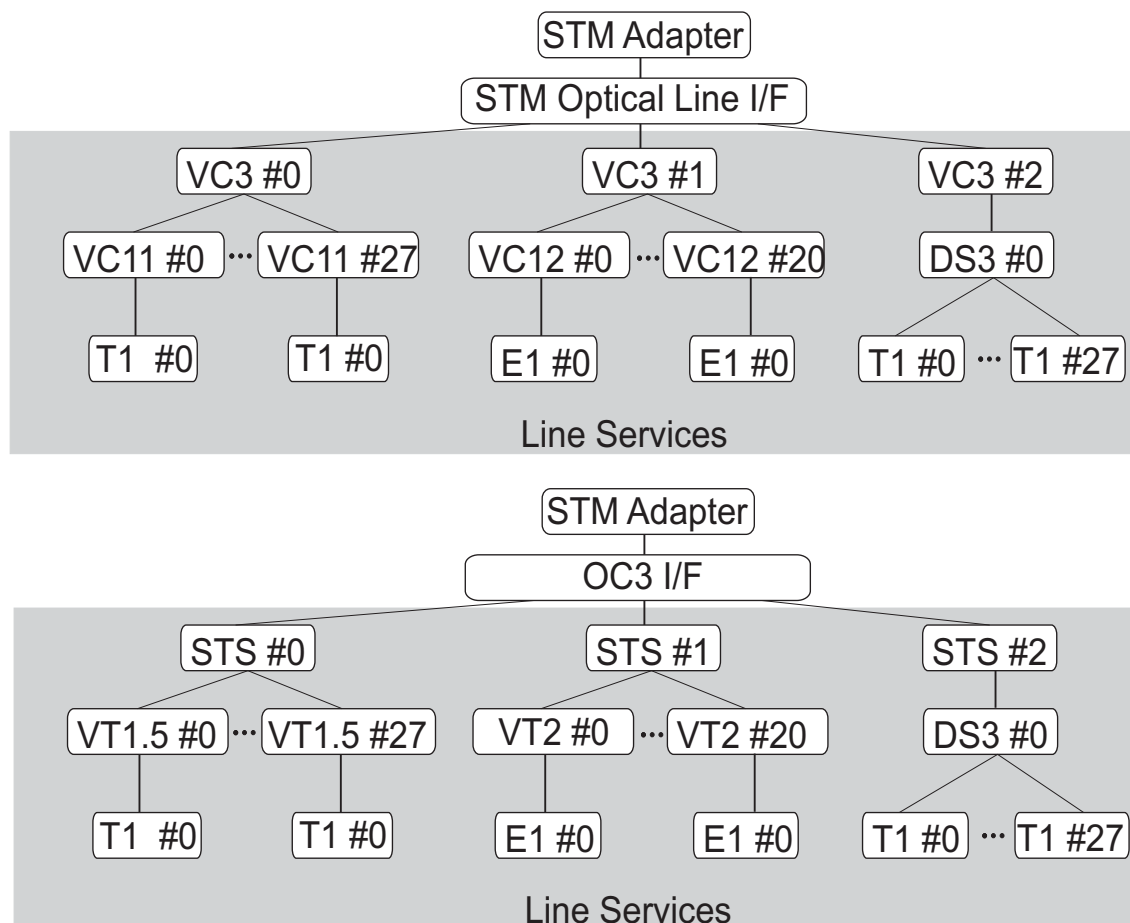

Figure 6.4 SONET and SDH: Line Interface to Line Service Relationship
The Tmedia TDM hardware adapter provides an interface for up to two SONET or SDH lines; One for operating as the active link with the other operating in standby for switchover. It is important that you verify the TDM module installed in your Tmedia unit. In the case of a SONET interface, an OC3 line interface is configured to serve a selection of line services. In the case of an SDH interface, an STM1 Optical line interface with related line services are configured. A conceptual image is shown in figure 6.4 on page 60
**Note** The line interface to line service relationship shown in figure 6.4 on page 60 is not meant to be an exhaustive list of all the combinations of line service payloads and their child line services. For further information refer to *section 5.3 Sonet and SDH* in the *TB640 User Guide, 9000-00002-2H*.